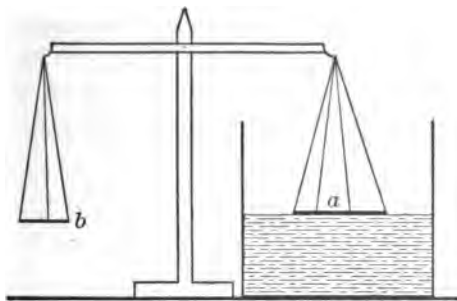

FIG. 6
*another.* If we balance a flat piece of glass, *a* (Fig. 6), with weights on the pan *b*, and then lower *a* till it just touches the surface of water, we shall have to add several more weights to *b* before the glass will be lifted from the water. The extra weights give the measure of the *adhesive force* of the water for the glass. Drops of water often cling to the bottom or sides of a glass vessel by adhesion.